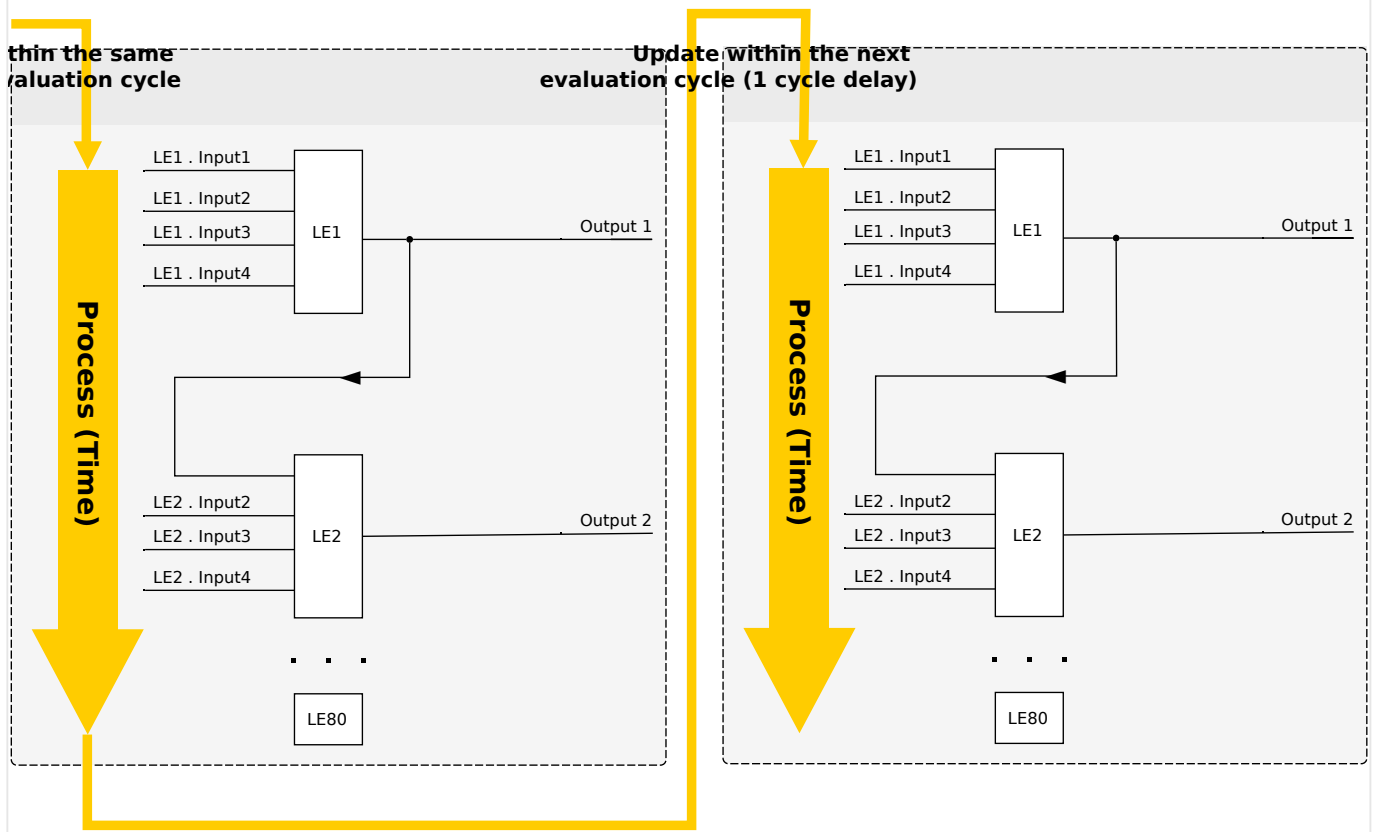
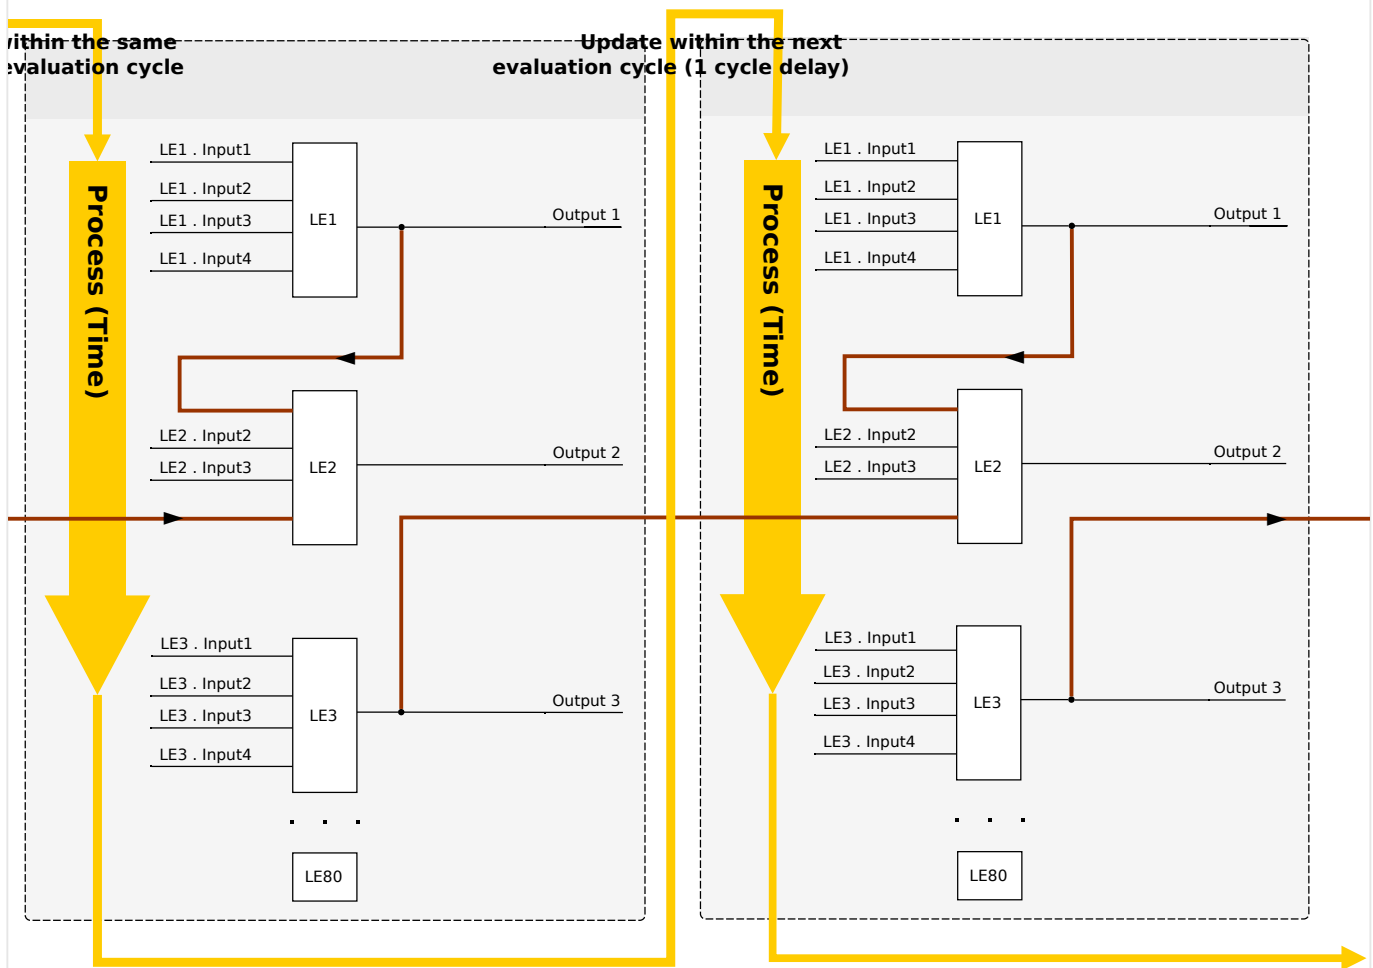

Fig. 139: Cascading in Ascending Order.
Fig. 140: Cascading in Descending Order.
- **Ascending** sequence means that some output is fed into the input of a logic equation with **higher** number. For instance, diagram ↪Fig. 139 below shows an example where the result of Logic Equation LE1 is used as an input of Logic Equation LE2.
- **Descending** sequence means that some output is fed into the input of a logic equation with **lower** number. For instance, diagram ↪Fig. 140 shows an example where the result of Logic Equation LE3 is used as an input of Logic Equation LE2.
Both ascending and descending sequences may be used and combined one with the other, with no immediate difference. However, due to the evaluation of all equations in ascending order the actual run-time values that are fed in at the input of an equation will have a different “age”, as is shown in ↪Fig. 139 and ↪Fig. 140 below.
In the example shown in Fig. 140 above, “Logic Equation 2” uses the output states of two other equations, “Logic Equation 1” and “Logic Equation 3”. The result of “Logic Equation 1” is used in ascending order and has therefore been evaluated within the same process cycle. The result of “Logic Equation 3” is used in descending order and has therefore been evaluated in the previous process cycle.